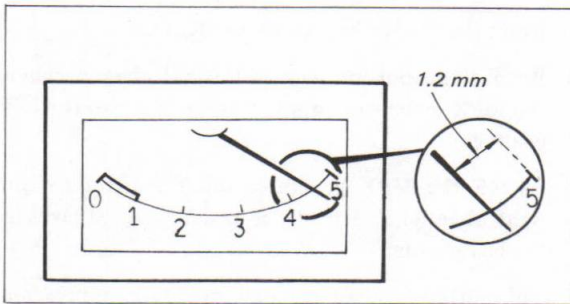
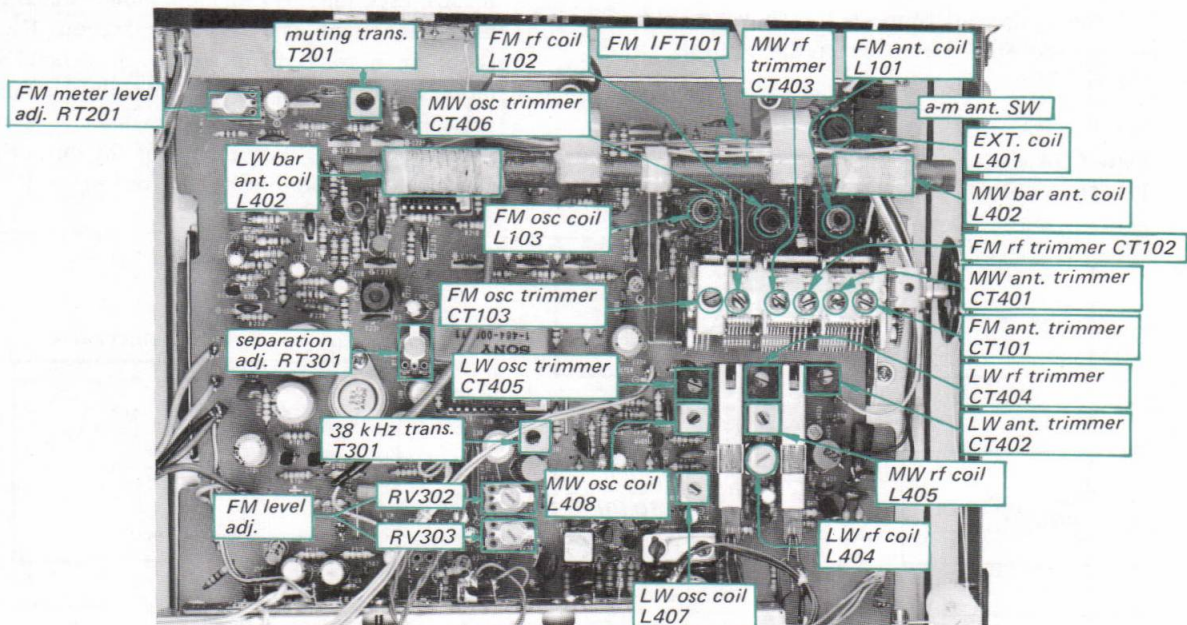

Fig. 3-3. Meter calibration
Fig. 3-4. Adjustment parts location
2. Tune to the signal generator frequency, then adjust T201 (See Fig. 3-4) for proper muting operation.
2. Tune to the signal generator frequency, then adjust RT201 (See Fig. 3-4) for 4.8 reading on the meter as shown in Fig. 3-3.
2. Precisely tune to the signal generator carrier frequency, then turn the top core of switching transformer T301 (See Fig. 3-4), to obtain maximum output at left channel. Note that this adjustment has a close relationship with stereo distortion.
3. Set the MONO switch to MONO, then adjust RV302 and RV303 (See Fig. 3-4) for same but as large as possible output at both left and right channel.
7. The output-level to residual-level ratio represents the separation. Adjust separation adj. control RT301 (See Fig. 3-4) for minimum residual level. Check the right channel for separation. Usually, about an 8 to 9 dB difference in channel separation exists. Readjust RT201 for minimum difference between left-and right-channel separation. While doing this, remember that the output level also changes according to the setting of RT301.
2. Tune to the signal generator frequency, then adjust L401 (See Fig. 3-4) for maximum output.